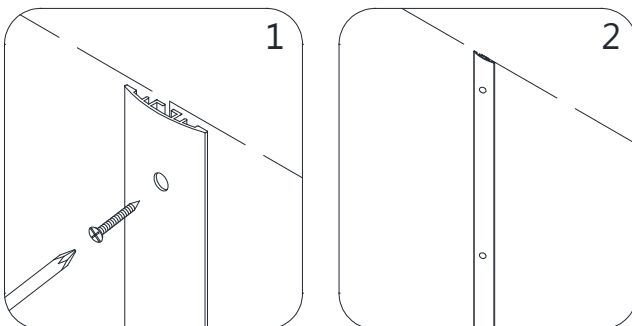

Fig 9
9. Install the **Center Cover (#05)** to the center of the back wall using the **Countersunk Screws ST4.2×30 (#07)**. Do not fully tighten the screws yet. Leave the **Center Cover (#05)** loose on the wall for now. **(Fig 9)**